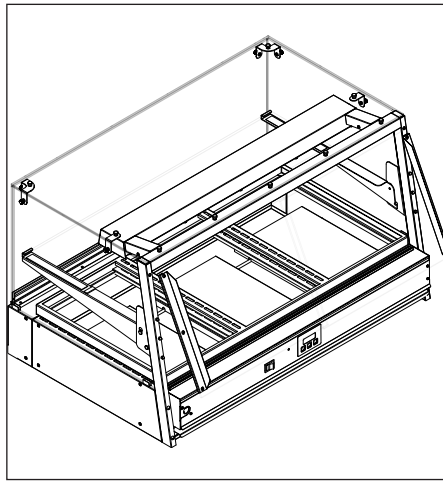

Figure 10. Rear Door(s) Removal/Installation
2. Firmly grasp the sides of one glass door. Lift the door up and out of the bottom track (Figure 10). Repeat for the other door.